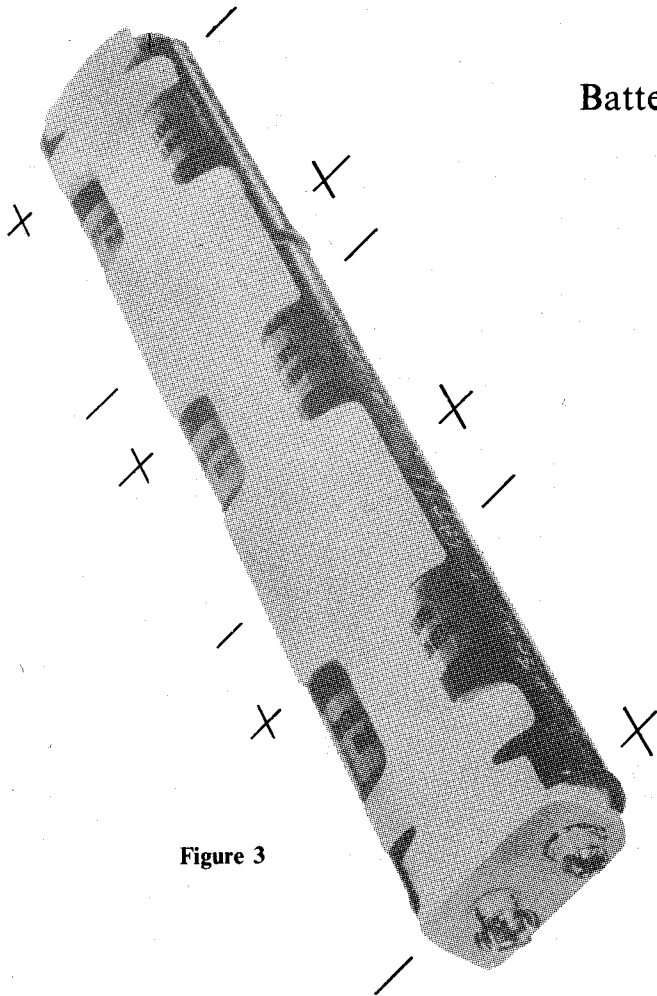
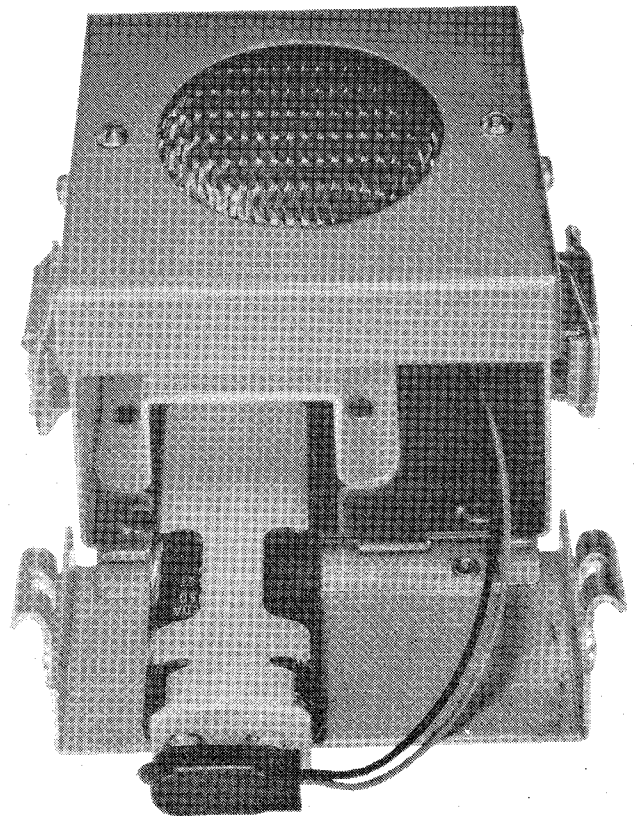

Figure 3
Figure 4
Battery Installation (Figures 3 & 4):
- A. Check the Battery Pack (Fig. 3) for polarity—each AA penlight battery should have negative (—) end compressing the spring inside its holder and positive (+) end should be at the end without spring. **POSITIVE (+) AND NEGATIVE (—) ENDS OF THE BATTERIES SHOULD ALTERNATE AS SHOWN IN FIGURE 3.**
- B. Connect Battery Pack (Fig. 3) to Battery Connector (Fig. 4). **NOTE THAT CONNECTOR WILL ONLY FIT ONE WAY.**
- C. Install Battery Pack (Fig. 3) inside Battery Compartment (Fig. 4).